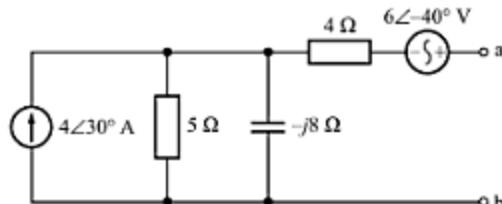

Fig. C-66
- C-97. Find Z_N , and I_N for the Norton's equivalent of the circuit shown in Fig. C-66.